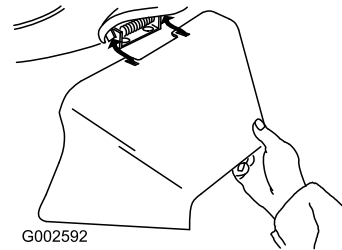

Figure 33
- 3. Install the side-discharge chute and close the door onto the chute (Figure 33).